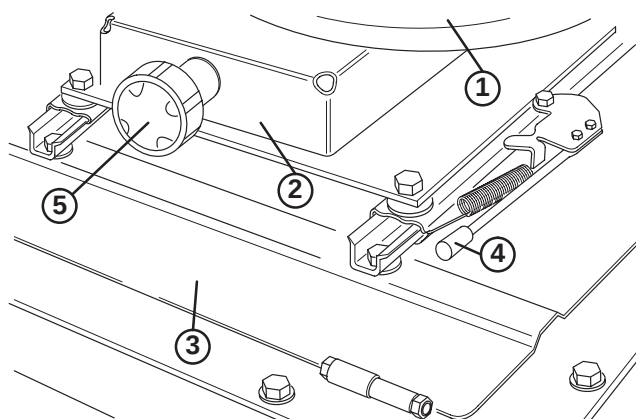

Figure 8
- 7. Adjust seat for operator's comfort and weight. To adjust seat fore and aft, pull handle on left side of seat assembly outward (Fig. 8). Release handle to lock seat
position. To adjust for operator's weight, turn spring tension knob; clockwise to increase tension, counterclockwise to decrease spring tension (Fig. 8).